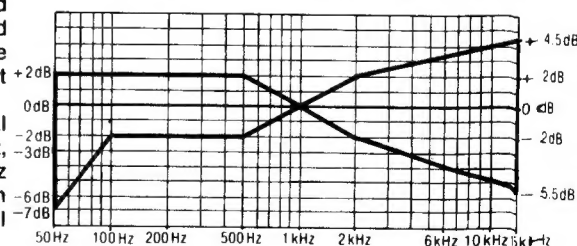

Fig. 17
8. Change test tape to CrO2 reference blank test tape (QZZCRX), and record 1kHz, 50Hz, 100Hz, 200Hz, 500Hz, 4kHz, 8kHz, 10kHz and 15kHz signals. Then, playback the signals and check if the curve is within the limits shown in the overall frequency response chart for CrO2 tapes (fig. 17).
9. Place UNIT into metal tape mode and change test tape to metal reference blank test tape (QZZCRZ), and record 1kHz, 50Hz, 100Hz, 200Hz, 500Hz, 4kHz, 8kHz, 10kHz, 12.5kHz and 15kHz signals. Then, playback the signals and check if the curve is within the limits shown in the overall frequency response chart for metal tapes (fig. 17).